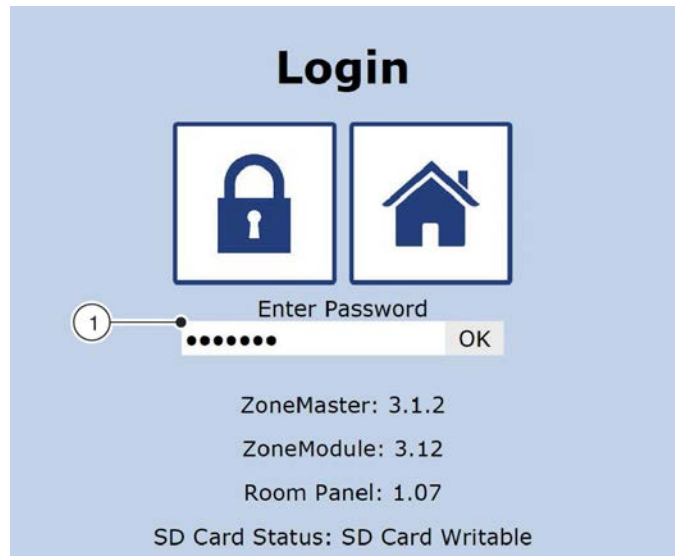
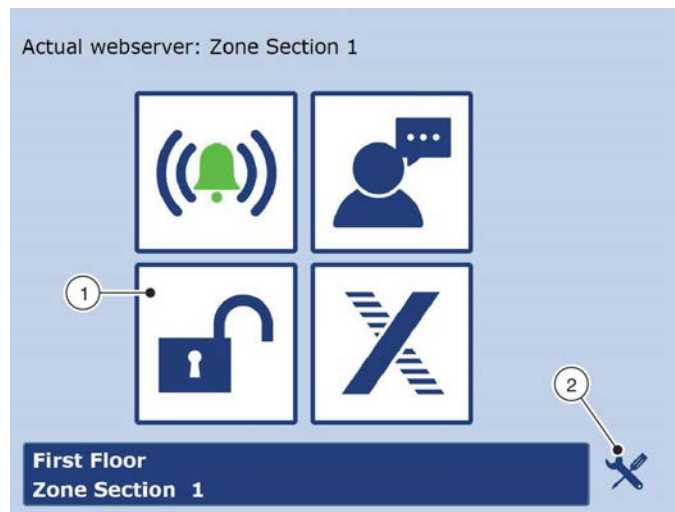

Fig. 26: Login
Fig. 27: You have been logged in
- ⇒ The 'Login' screen (Fig. 26) displays.
2. ▶ Enter the default password 'Service' into the entry field (Fig. 26 /1).
- ⇒ The Start screen shows an open padlock (Fig. 26 /1). You can now access the Service screen (Fig. 27 /2) for configuration and settings.